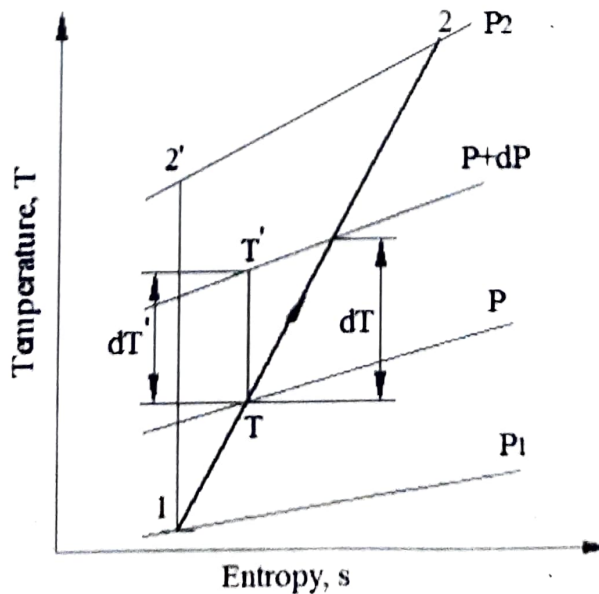

Fig. 3.5 Infinitesimal stage of a compressor
Consider a single stage compressor having its stage efficiency  $\eta_{st}$ , operates between the pressures  $p_1$  and  $p_2$ , and an infinitesimal stage of efficiency  $\eta_p$ , working between the pressures  $p$  and  $p+dp$  as shown in figure 3.5.
**Answer:** From the T-s diagram shown in figure 3.5, the compressor stage efficiency is given by,